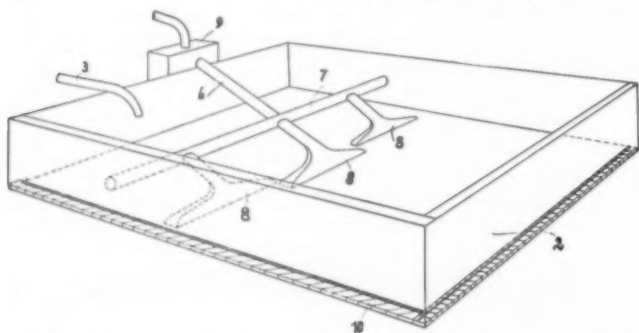

Fig. 5—Method of K. Dammann for Applying Bitumen to Road Surfaces
Improving Penetration of Bitumen—K. Dammann (7) has devised a means of improving the penetration of bitumen into road surfaces for those cases in which hot asphalt or hot tar is used in the penetration type of construction. The basic feature of the improvement is the application of suction to the road surface to remove excess air in order that the hot bitumen can better penetrate the pores of the road structure. Figure 5 illustrates the method as described by Dammann. The bitumen is heated and run into the rectangular carrier element which passes over the road surface. The carrier is kept filled with a sufficient amount of hot bitumen so that the bitumen is not cooled too much by contact with the aggregate of the road as occurs in the ordinary penetration methods. Rubber or the like is used to give a seal between the sides and ends of the carrier with the road surface. A vacuum pump connected by a suction line with suitable suction heads in contact with the road surface removes air and moisture from the pore spaces. The suction heads in the carrier are covered with bitumen to prevent re-entry of air.